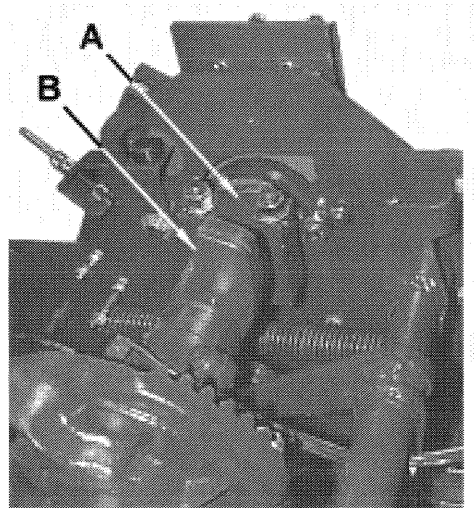

Fig.25
This adjustment is made with shims between the cam gears and knotter frames. Shimming must be done between the cam gears and the knotter frames any time a knotter is assembled. Excess space between the cam gears and the knotter frames, is taken out by adjusting the (2) square head set screws on the left hand Knotter Shaft Clamp "A," against the Twine Finger Cam "B," *Fig.25*.